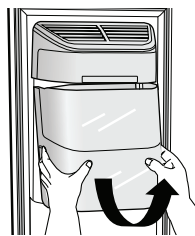

Figure 1
- Hold the handle as shown in Figure1.